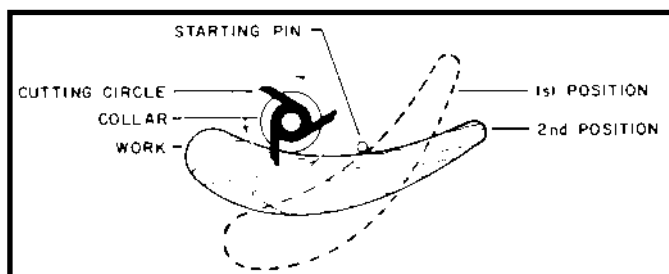

Fig. 42
2. Place the work in the first position using the guide pin as a support (Fig. 42). Swing the work into the cutter as shown in the second position (Fig. 42). The work will be supported by the collar and starting pin (Fig. 42).